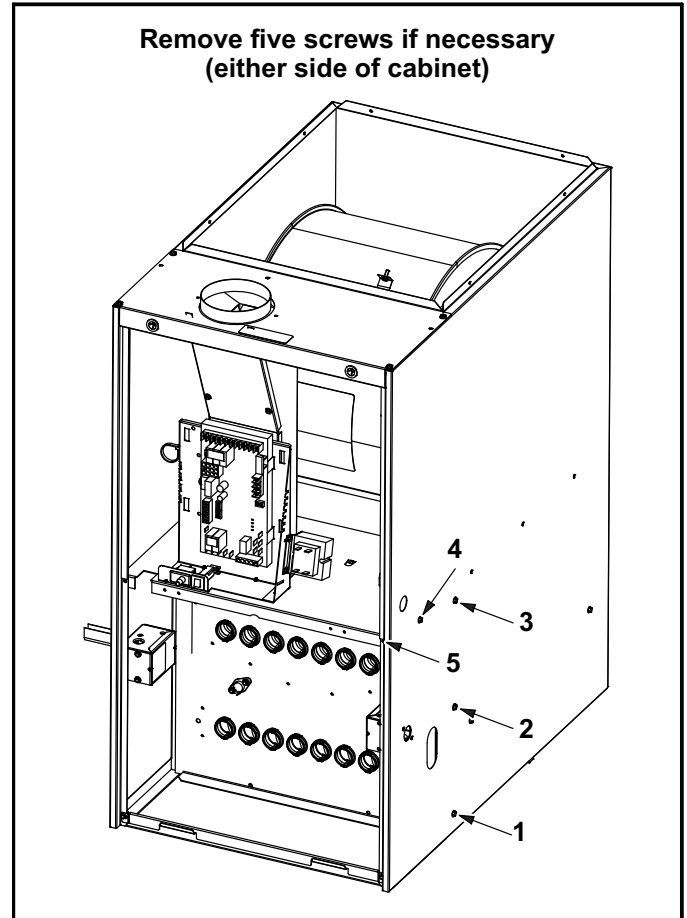

FIGURE 28
- 9 - Remove heat exchanger. It may be necessary to spread cabinet side to allow more room. If so, remove five screws from the left side or right side of cabinet. See figure 28.